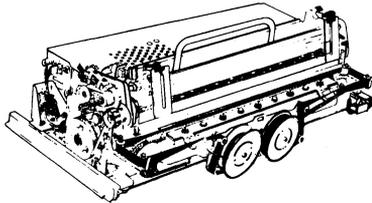

Fig. 23
4.02 Brush and/or vacuum dust and paper lint that has accumulated on sides, front, and top of printer and inside paper chute (Fig. 23). Make sure customer's furnishings are not damaged. Customer's area must be kept clean.